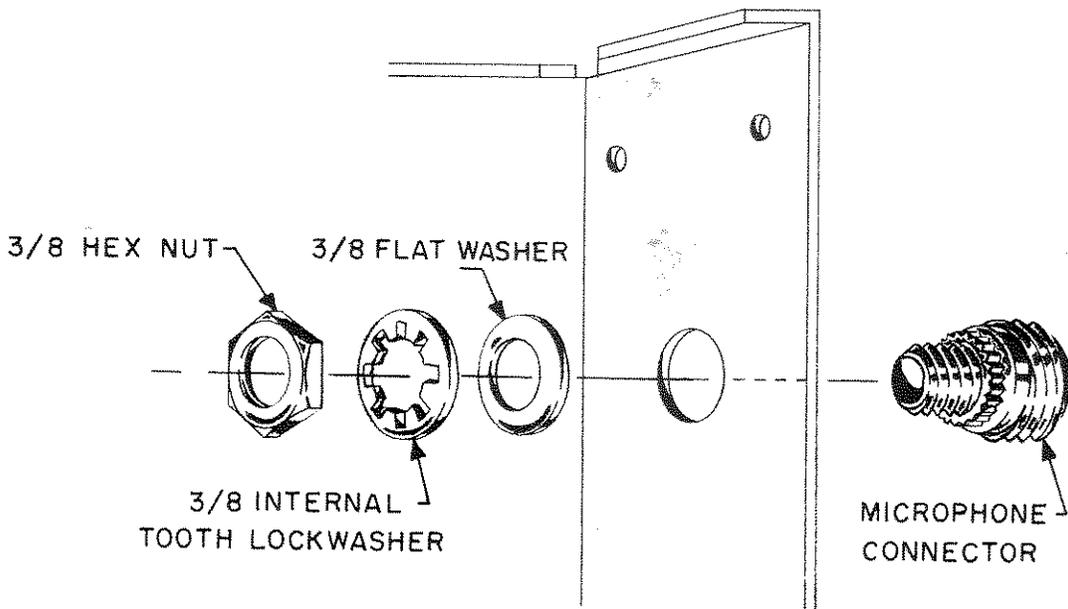

Figure 13. Microphone Connector Installation.
- (✓) Install the microphone connector on the rear flange of the chassis in hole 53 as shown in Figure 13.
- (✓) Locate the green shielded wire breaking out of cable harness WH-2 near R16, as shown in Pictorial 5. Connect the outer conductor or shield braid to terminal 3 of R16 (DS) and the center conductor to terminal 1 of TS-13 (DS).
- (✓) Locate the gray shielded wire breaking out of cable harness WH-2 near R16. Connect the outer conductor or shield braid to terminal 3 of R16 (DS) and the center conductor to terminal 2 of R16 (S-1).
- (✓) A single violet wire breaks out of the cable near TS-12. Connect this violet wire to terminal 1 of TS-12 (DS).
- (✓) A black shielded wire breaks out of the cable near TS-12. Connect the outer conductor or shield braid to terminal 3 of TS-12 (S-1) and the center conductor to terminal 4 of TS-12 (DS).
- (✓) Locate the green shielded wire breaking out of the cable near TS-11. Connect the outer conductor or shield braid to ground lug No. 1 of socket XV3 (DS) and the center conductor to terminal 2 of socket XV3 (DS).
- (✓) Locate the orange shielded wire at the end of the cable near TS-10. Connect the outer conductor or shield braid to terminal 3 of TS-10 (DS) and the center conductor to terminal 2 of TS-10 (DS).